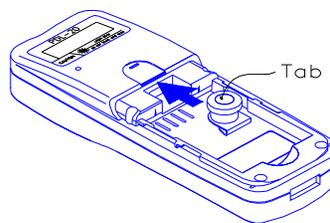

Fig 5
- b. Push the tab into the thumb-like indentation as shown in Fig 5.